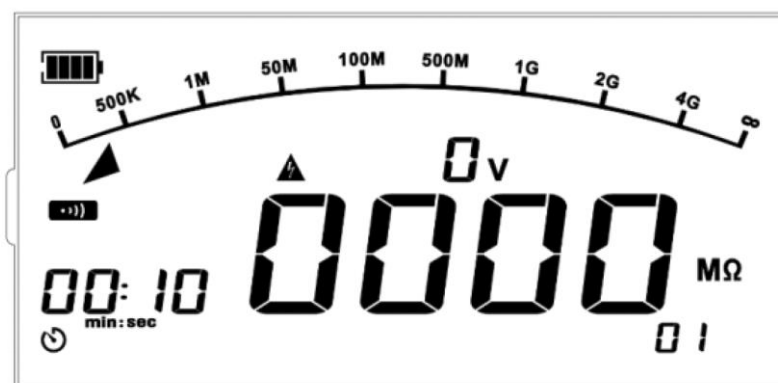

Figure 11.4 Test lead shorted
(3) If the test lead is damaged, broken, streaked or cracked, please stop use and contact your distributor or purchase new test leads from nearby franchised stores
(4) If the test leads are not damaged, connect the black test lead to the COM terminal, then connect the red test lead or remote-controlled test rod to the Insulation/V terminal.
(5) Connect the alligator clip or pen-shaped testing probe to the same-color test leads (connect according to corresponding color).
(6) For insulation resistance measurement, short the red and black test leads, then press the TEST button to measure if the internal resistance of the test lead is about 0 MΩ (as shown in Figure 11.4). If the measurement result is far greater than 0 MΩ, please check again if the test lead is connected